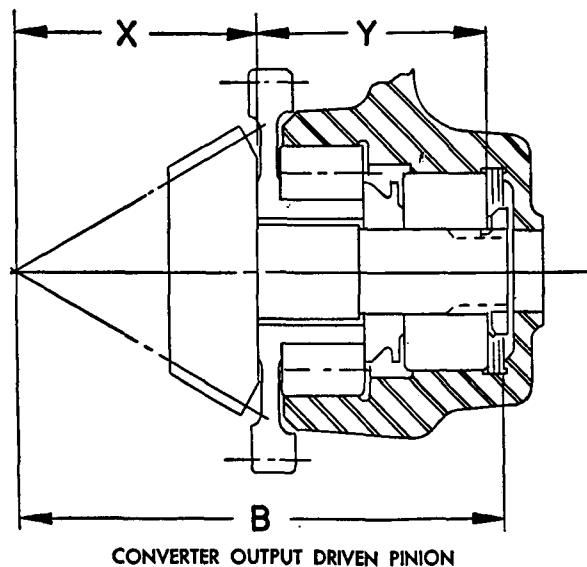

Figure 304. Converter output-driven-bevel pinion inspection chart.
- (20) If it is necessary to determine the nominal shim pack for the converter-output bevel pinion, refer to figure 304 and *b* (7)